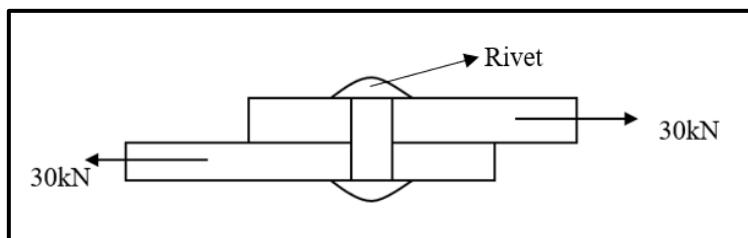

Figure 2(b)
- (b) In Figure 2(b) two steel plates are connected using rivet diametrical 1.5 cm. If tension force subjected was 30 kN, calculate: